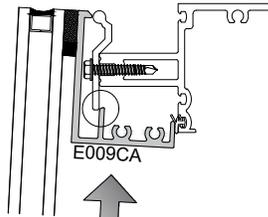

Fig. 42.1
STEP 1: Position the cassette frame at a slight angle to the head frame back member as shown in Fig. 42.1